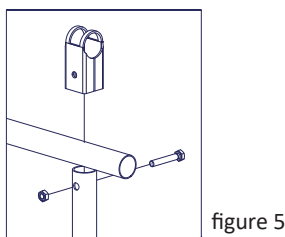

figure 5
3. Attach the handrail to the vertical bar with handrail collets by using bolt M8x50 and nut M8 (figure 5) and the lower handrail to the vertical bar with crossing collets by using four bolts M8x16 and nuts M8 (figure 6). Secure the attachment of crossing collet with self-drilling screws.